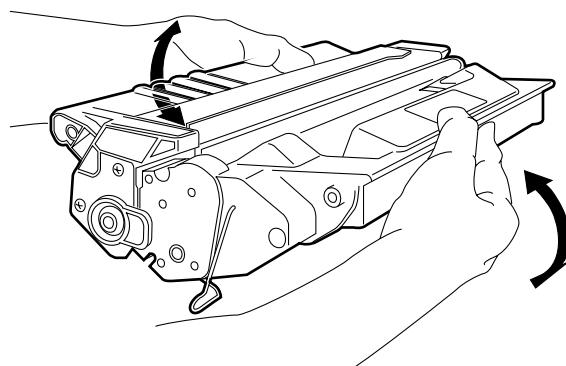

Figure 1-1
a) When setting the cartridge in the copier, or when blank areas occur in the copy image because toner runs out during copying, hold the cartridge level, as shown in figure 1-1, and shake it several times at about 90° in both directions. After the toner inside the cartridge has been leveled evenly, set the cartridge in the copier. If the cartridge is shaken in a manner other than that described above, there is the danger that toner may leak from the developing assembly and cleaning assembly.